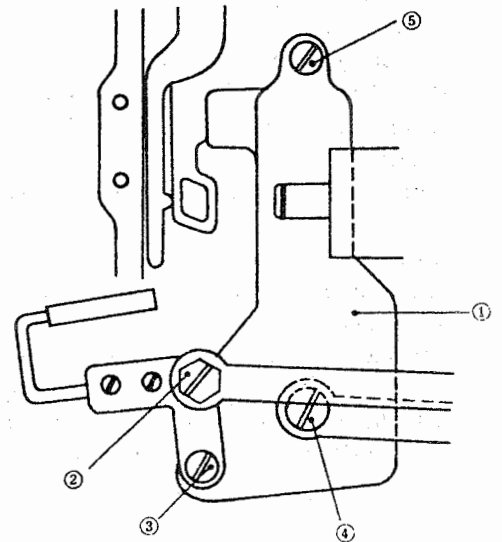

Fig. 31
Remove knife mounting base ① (Fig. 31) in the following sequence:
- 2) Loosen hinge screw ② (Fig. 31), and remove hinge screw ③ (Fig. 31).
- 3) Remove hinge screws ④ (Fig. 31) and ⑤ (Fig. 31), then, the knife mounting base can be removed.